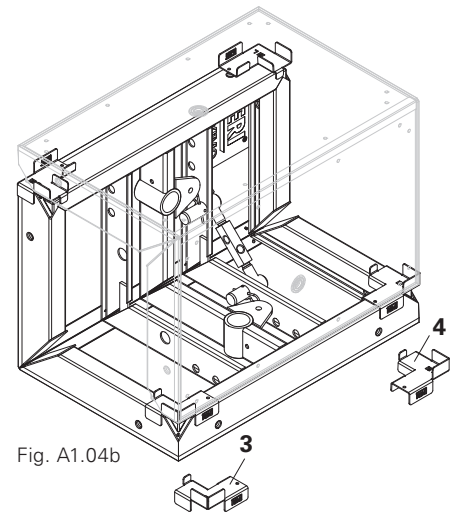

Fig. A1.04b
- two shaft corners, (Fig. A1.04b)